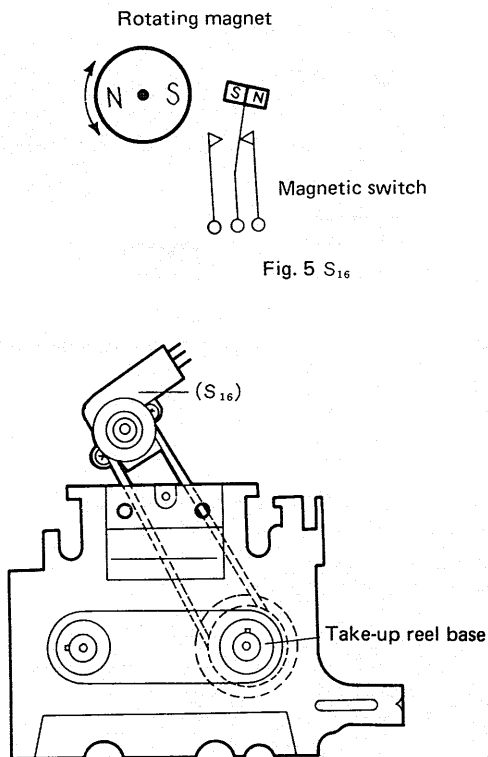
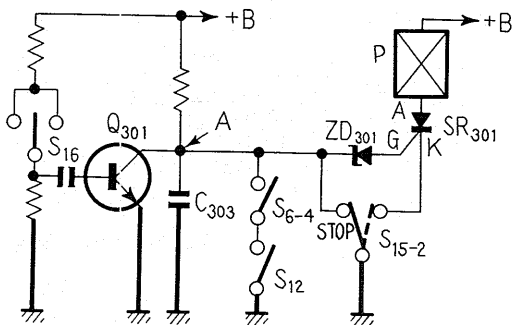

Fig. 6
Fig. 7 Auto stop block
3.2 AUTO STOP CIRCUIT (Fig. 7)
When the tape is wound to the end, the auto stop circuit automatically releases the tape transport control levers. Tape running is detected by a magnetic switch (S16). The switch is constructed as in Fig. 5 and switches on and off while the magnet which is driven by a belt from the take-up reel base is rotating (Fig. 6). S15-2 causes the cathode of thyristor (SR301) to be grounded when one of the FF, REW and PLAY levers is pressed. While the tape is running, S16 switches on and off. This means that an alternating current is applied to Q₃₀₁. Because of this Q₃₀₁ is repeatedly conducting and nonconducting and C₃₀₃ charging and discharging. In Fig. 7 point A is connected to the gate of SR301 through the Zener diode (ZD301). While Q₃₀₁ is switching ON and OFF, the potential at A is maintained at a relatively low value and no current flows to ZD301.